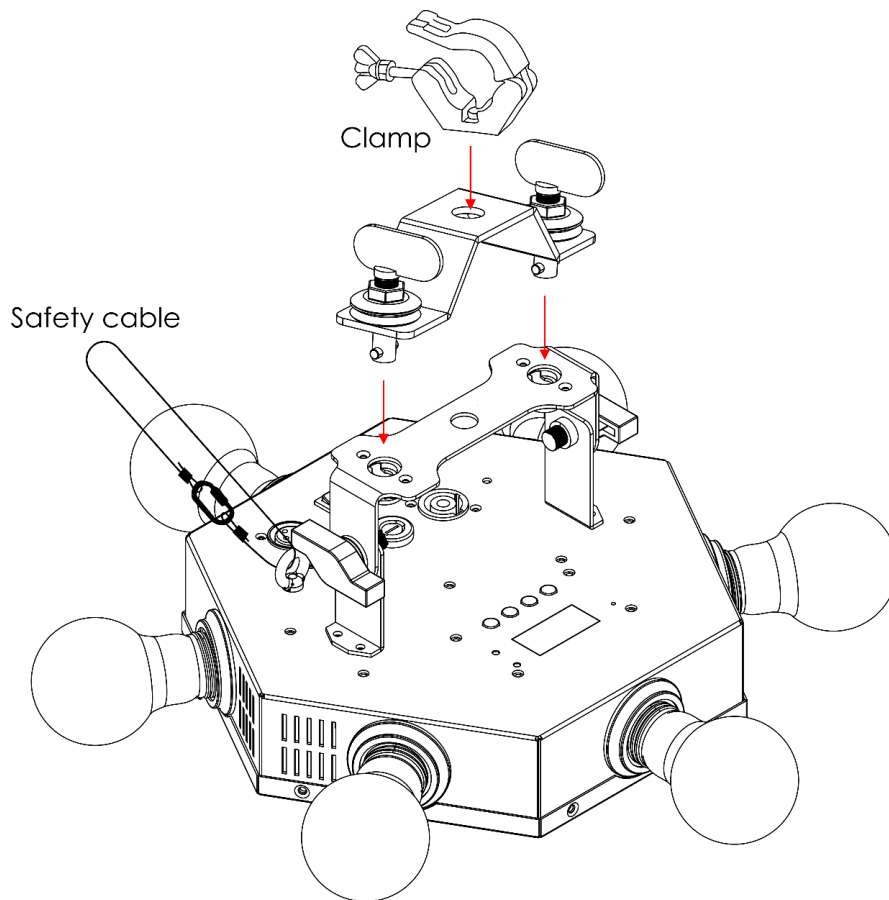

Fig. 06
- 01) Use a clamp to attach the device to the supporting structure, as shown in Fig. 06. Make sure that the device cannot move freely. The use of a quick lock bracket is optional.
- 02) Secure the device with a secondary suspension, for example a safety cable. Make sure that the secondary suspension can hold 10 times the weight of the device. If possible, the secondary suspension should be attached to a supporting structure independent of the primary suspension. Put the safety cable through the **safety eye (10)**, as shown in Fig. 06.